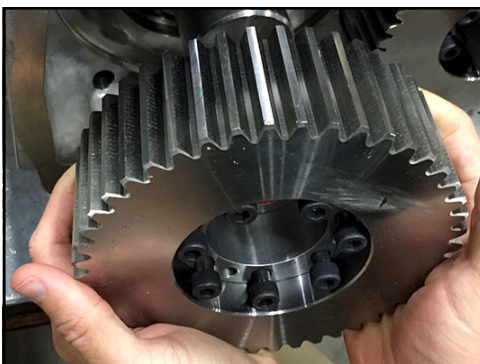

Figure 152 - Remove gear
4. Pull the gear and locking assembly off the shaft and place it on a protected surface as shown in Figure 152.